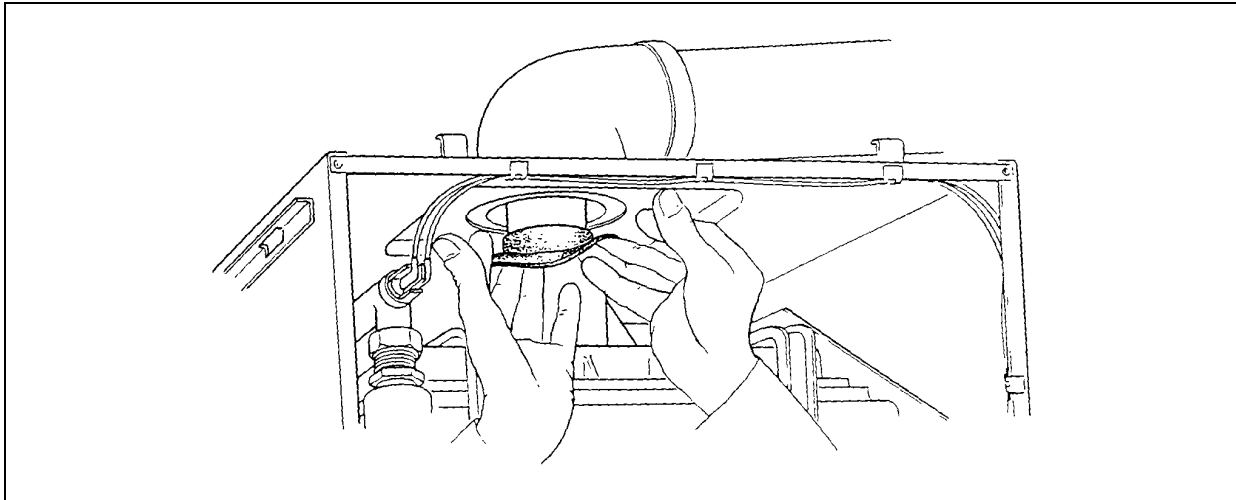

FIG. 18 FOLDING BACK FLUE SEALING GAITOR
- 10) Fold back gaiter between the flue hood and elbow. FIG.18.